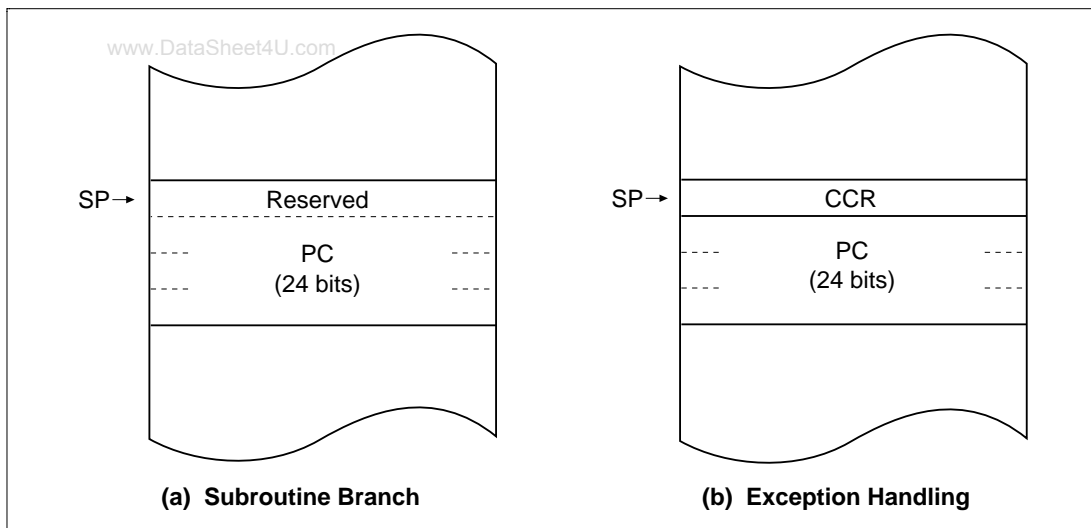

Figure 2.5 Stack Structure in Advanced Mode
Stack Structure: In advanced mode, when the program counter (PC) is pushed onto the stack in a subroutine call, and the PC and condition-code register (CCR) are pushed onto the stack in exception handling, they are stored as shown in figure 2.5. The extended control register (EXR) is not pushed onto the stack. For details, see section 4, Exception Handling.